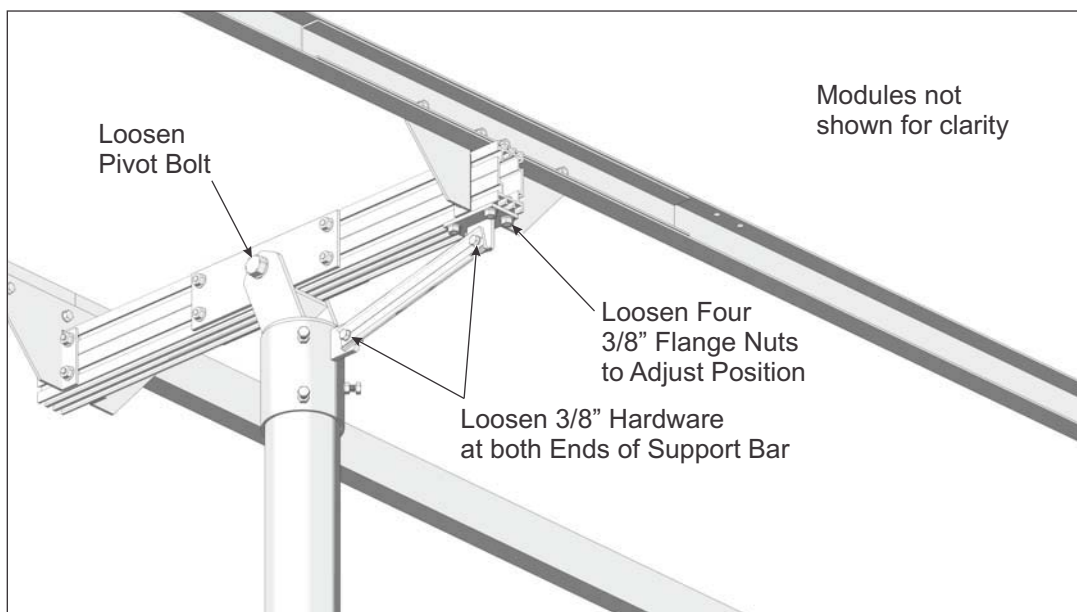

Figure 6-1: Adjusting Tilt Angle
- A. While one person holds the south edge of rack, the other loosens the Pivot Bolt, the 3/8” Flange Nuts securing the Mounting Tab to the Strongback, and the 3/8” hardware at both ends of the Support Bar at the Support Bar Mounting Tab of the Strongback and the Pivot Tab of the Mounting Sleeve. (See Figure 6-1)